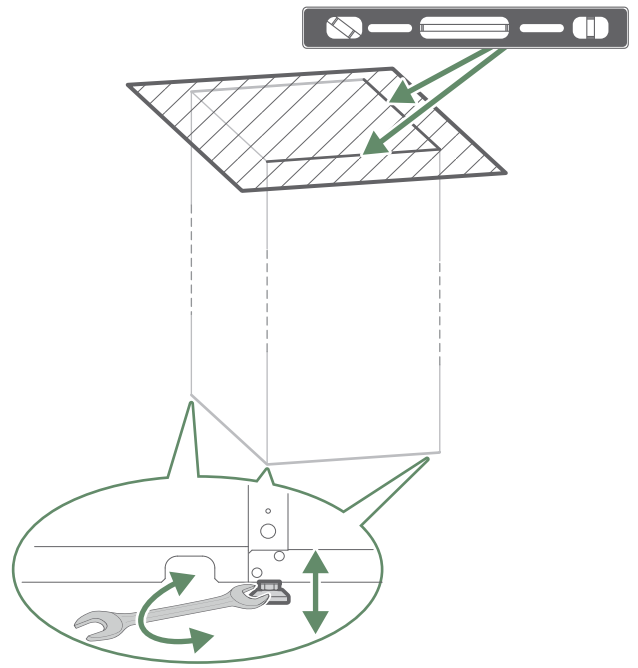

fig. 19 - Levelling
- Make sure the hydraulic unit is level (fig. 19).